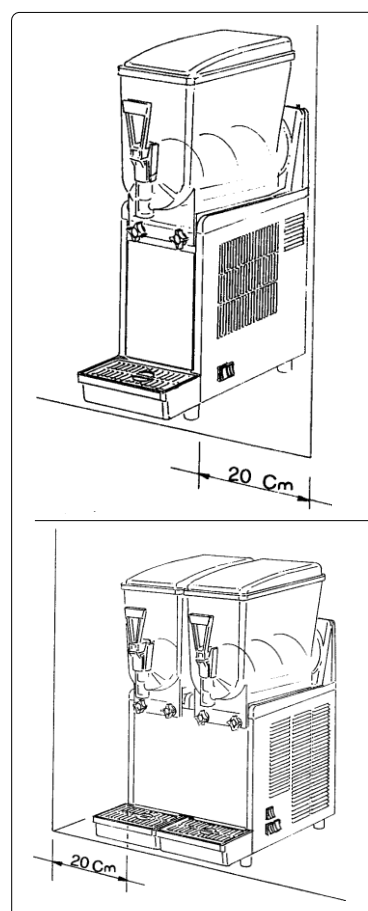

Fig. 14
- b) Rest the machine on a sturdy, flat surface making sure it is well ventilated by **leaving a gap of 20 cm all around it** and do not install it near heat sources (fig.14); **we recommend you to maintain a room temperature between 24 and 32°C.**